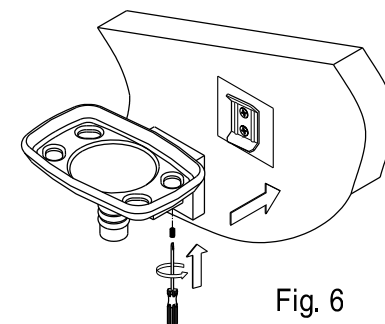

Fig. 6
- Step 6. Place the unit, with the small hole in the base underneath, over the mounting plate by tightening the slotted set screw with a flat head screwdriver until the base is tightly fixed (fig 6).